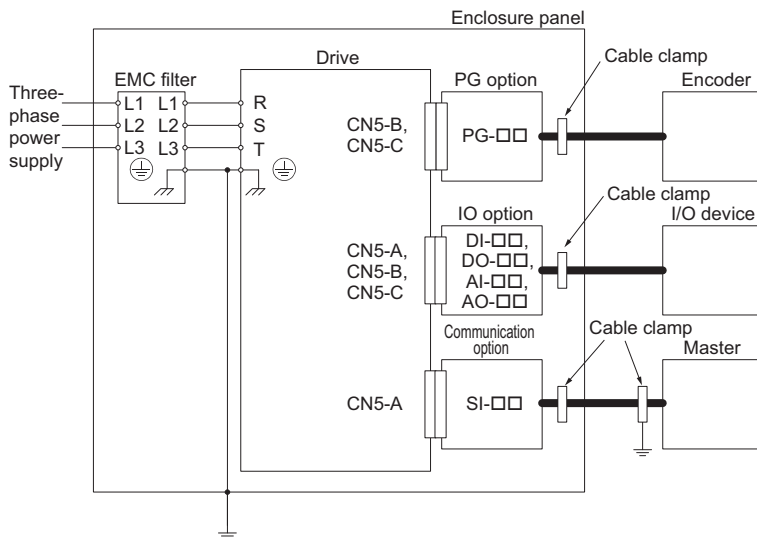

Figure 28 Option Installation for CE Compliance (PG-□□, DI-□□, DO-□□, AI-□□, AO-□□, SI-□□)
2. Keep wiring as short as possible and ground the largest possible surface area of the shield to the metal panel according to Figure 28.